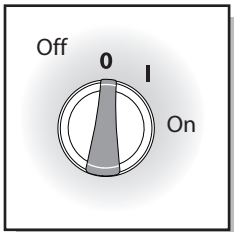

Fig. 14
- Make sure the "ON/OFF" knob is in the "OFF" position. The power switch has international symbols for 'on' and 'off': On (I) Off (O). (Fig. 14)
- Turn the dial to 'ON' (Fig. 14) The motor and pump should now be running and providing a powerful spray.